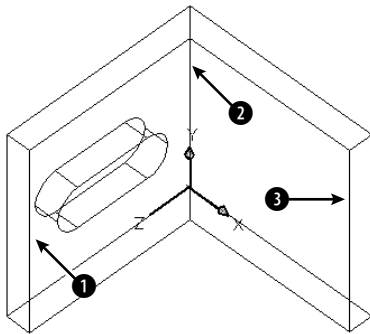
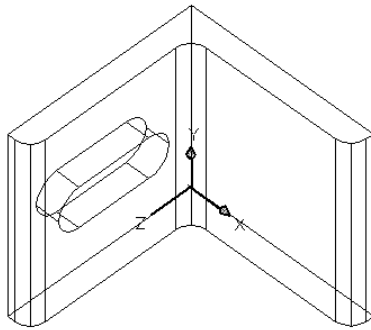

**Figure 24-44:** The mounting angle needs filleting.
**Figure 24-45:** The filleted mounting angle.
2. Save the file as ab24-15.dwg in your AutoCAD Bible folder. This is a solid model of a mounting angle, as shown in Figure 24-44. It needs to be filleted. Turn OSNAP off.
4. At the Select first object or [Undo/Polyline/Radius/Trim/Multiple]: prompt, pick the edge at ❶ in Figure 24-44.
6. At the Select an edge or [Chain/Radius]: prompt, pick ❷.
7. At the Select an edge or [Chain/Radius]: prompt, pick ❸. Press Enter to end the command. AutoCAD fillets all three edges.
8. Save your drawing. It should look like Figure 24-45.
You can move a face when a solid is complex enough to have at least two separate elements—for example, a plate with a hole in it. You can then move the hole around wherever you want. Look at the mounting angle in Figure 24-45, earlier in this chapter. You could move the hole from the left face to the right face using SOLIDEDIT. (You can also subselect the hole and move it using its grips.)